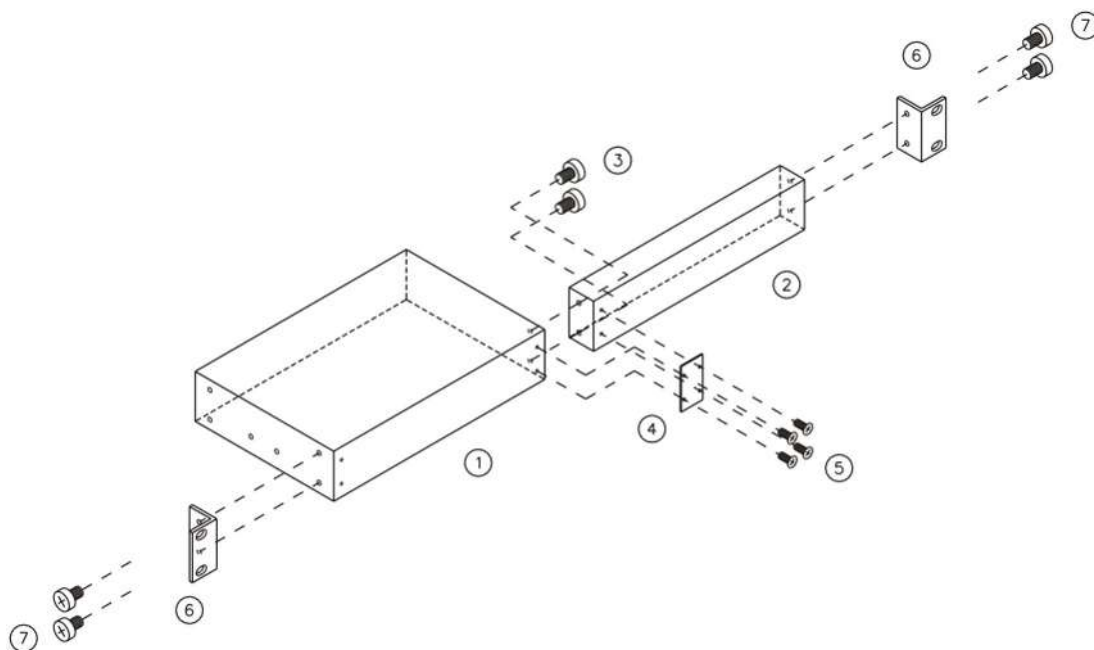
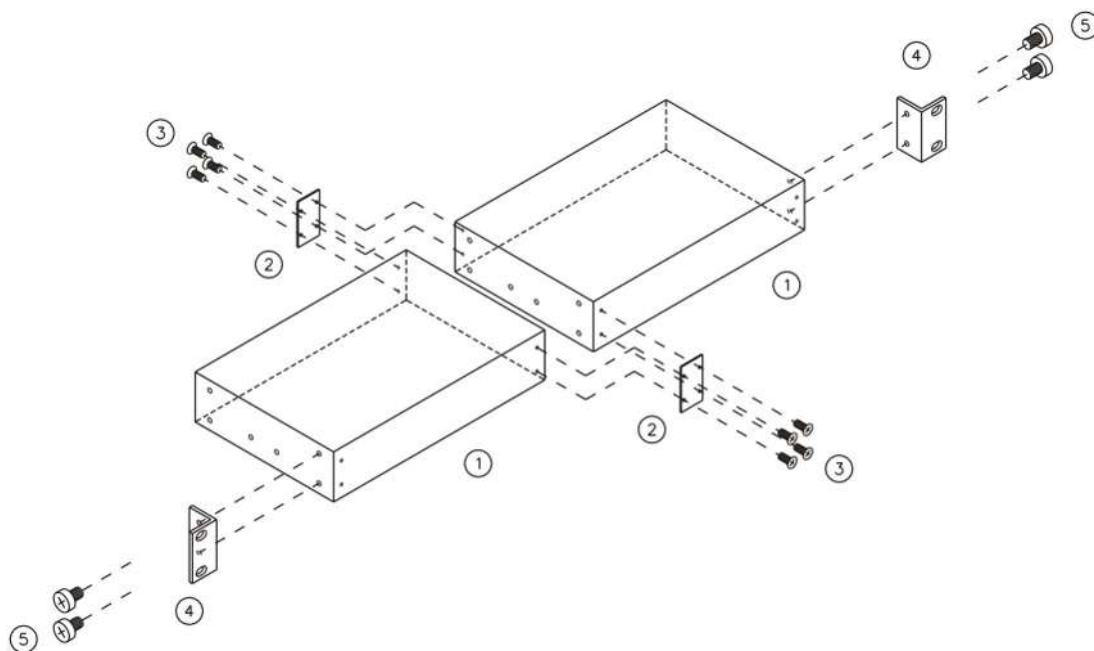
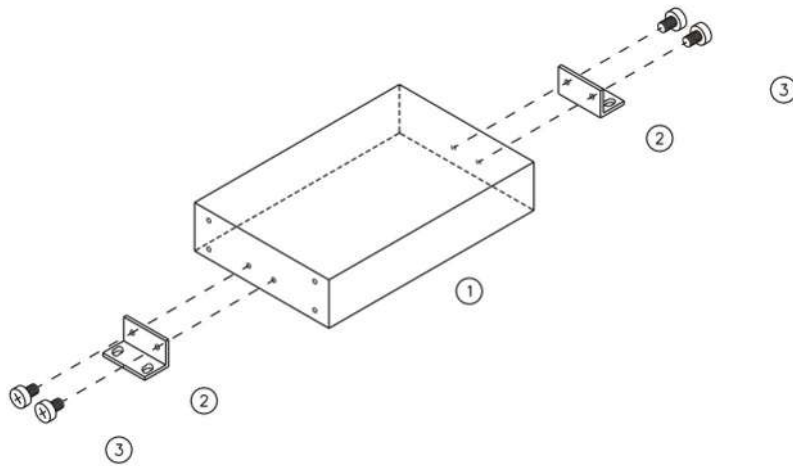
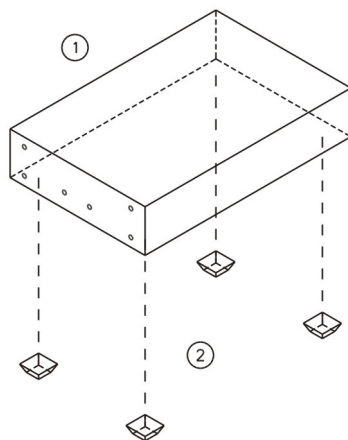

Fig. 18: 19" installation of Multi PMP or Power Distribution for Multi PMP and filler panel ½ 19"
Fig. 19: 19" installation of Multi PMP and Power Distribution for Multi PMP
Fig. 20: Wall mounting of Multi PMP or Power Distribution for Multi PMP
Fig. 21: Desktop operation of Multi PMP or Power Distribution for Multi PMP
The different installation possibilities and the correct installation of the required installation components are described in the following (see Fig. 18, p. 21, Fig. 19, p. 21, Fig. 20, p. 22, Fig. 21, p. 22).
If only a **Multi PMP** or a **Power Distribution for Multi PMP** is supposed to be mounted into a 19" rack, the filler panel ½ 19" ASC no.: 79931023 is required (see pos. 2 in Fig. 18, p. 21).